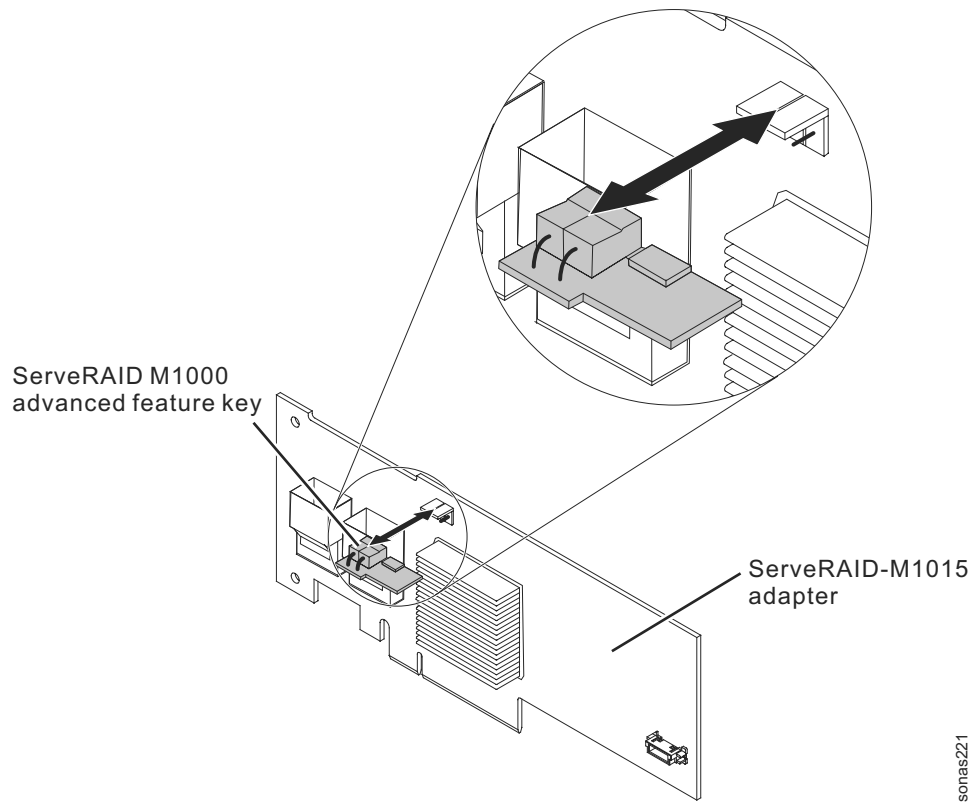
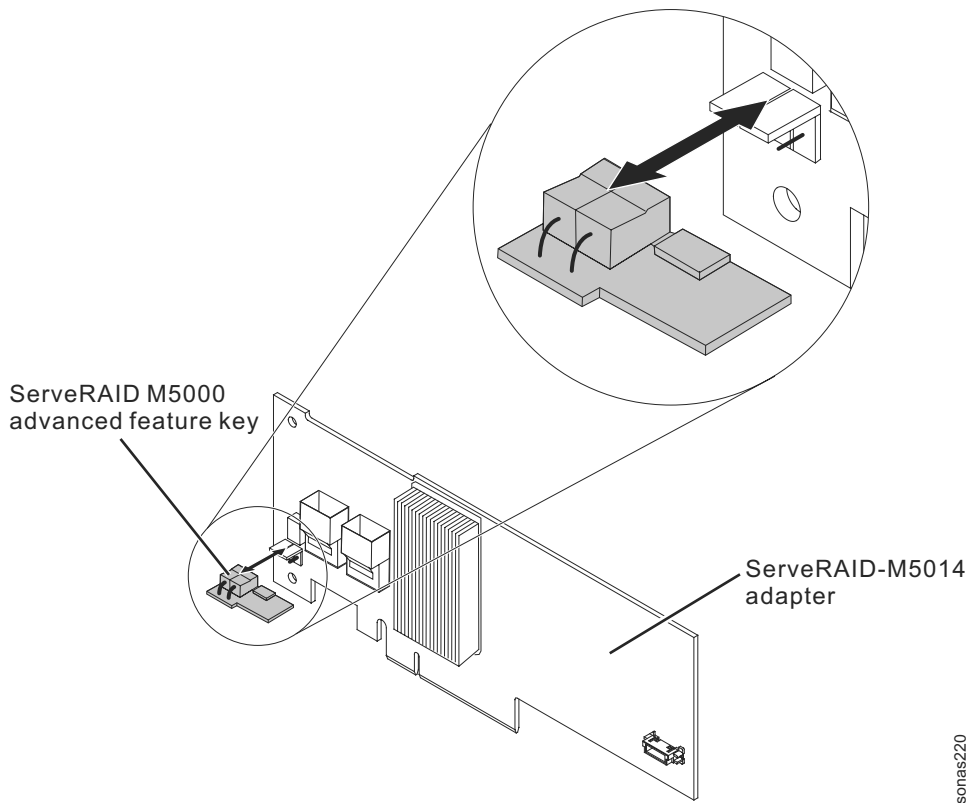

Figure 30. ServeRAID M1000 advanced feature key and M1015 adapter
Figure 31. ServeRAID M5000 advanced feature key and M5014 adapter
4. Align the feature key with the connector on the ServeRAID adapter and push it into the connector until it is firmly seated. See Figure 30 on page 131 and Figure 31 on page 132.